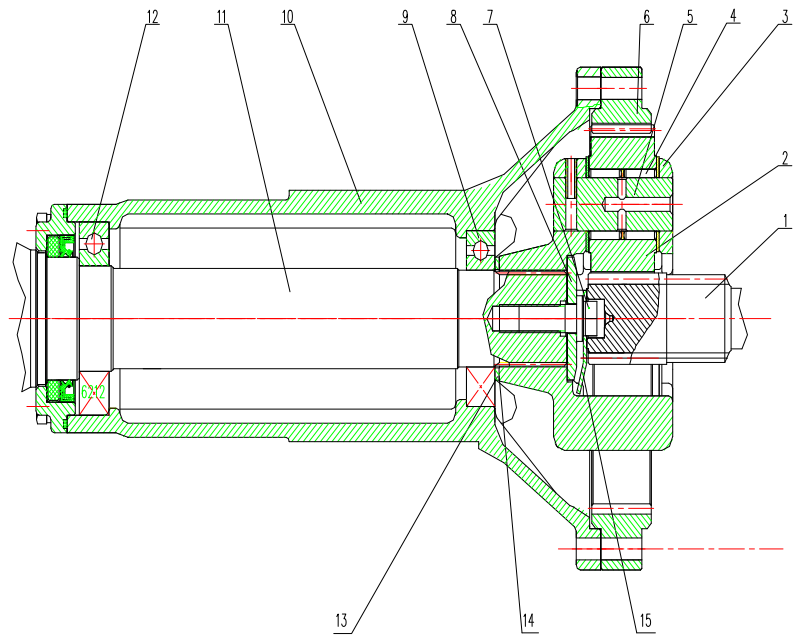

Figure 5-9 Structure of Final Drive
5.3.5.1. Structure of final drive (Figure 5-9)